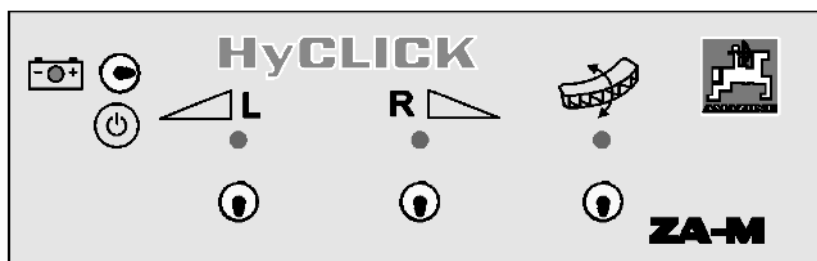

Fig. 34
5. Steerable brake rollers (Fig. 34), front
- o Install and secure with clip pin (Fig. 34/1),